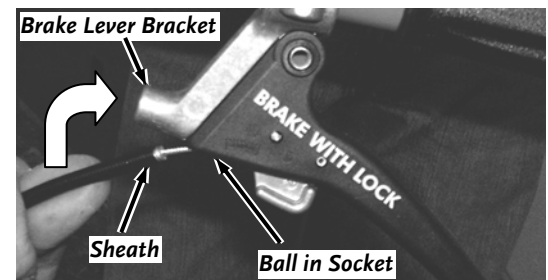

Figure 12
16. Slip the barrel end of the Brake Cable into the socket in the Brake Lever and then insert the Brake Cable Sheath into the end of the Brake Lever Bracket (**Figure 12**).